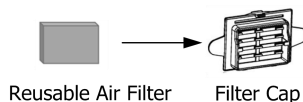

Fig. 18-7
(1) To clean or replace reusable air filters, open the filter cap and remove the reusable air filter, place a new reusable air filter into the filter cap, as shown in Fig. 18-7.